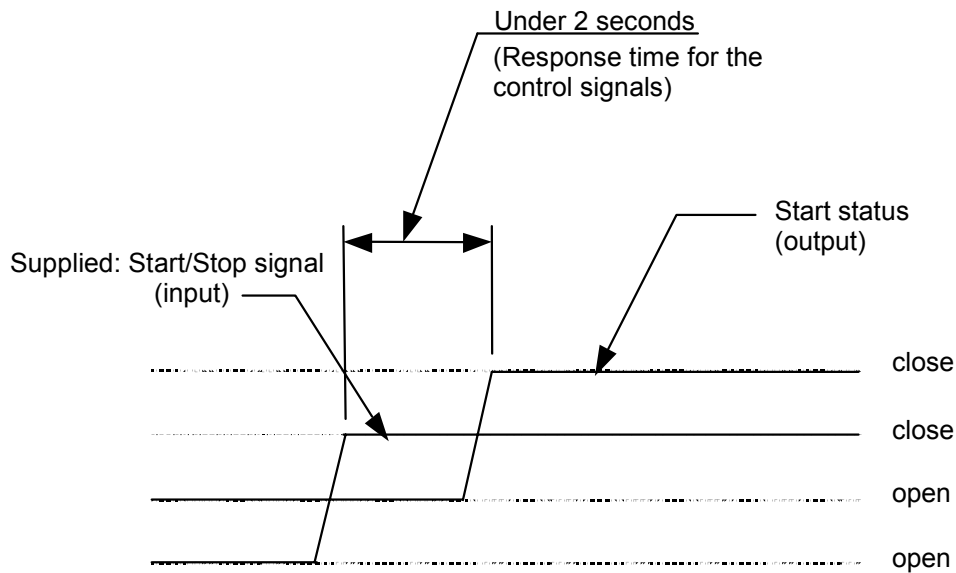

Figure 2
6.2.1.1 Table 2 specifies the required DRP control signals. Table 3 and Figure 2 specify the required response time for DRP control signals. Table 4 specifies the required power and contacts for DPR control signals. Tables 5 and 6 and Figure 3 specify the required connector and pin assignments for DRP control signals.
| 2 | Control Signals | Under 2 seconds After receiving a signal | See Figure 2. Objects: a) Start signal (input) ->> Start status (output) b) Stop signal (input) ->> Stop status (output) |